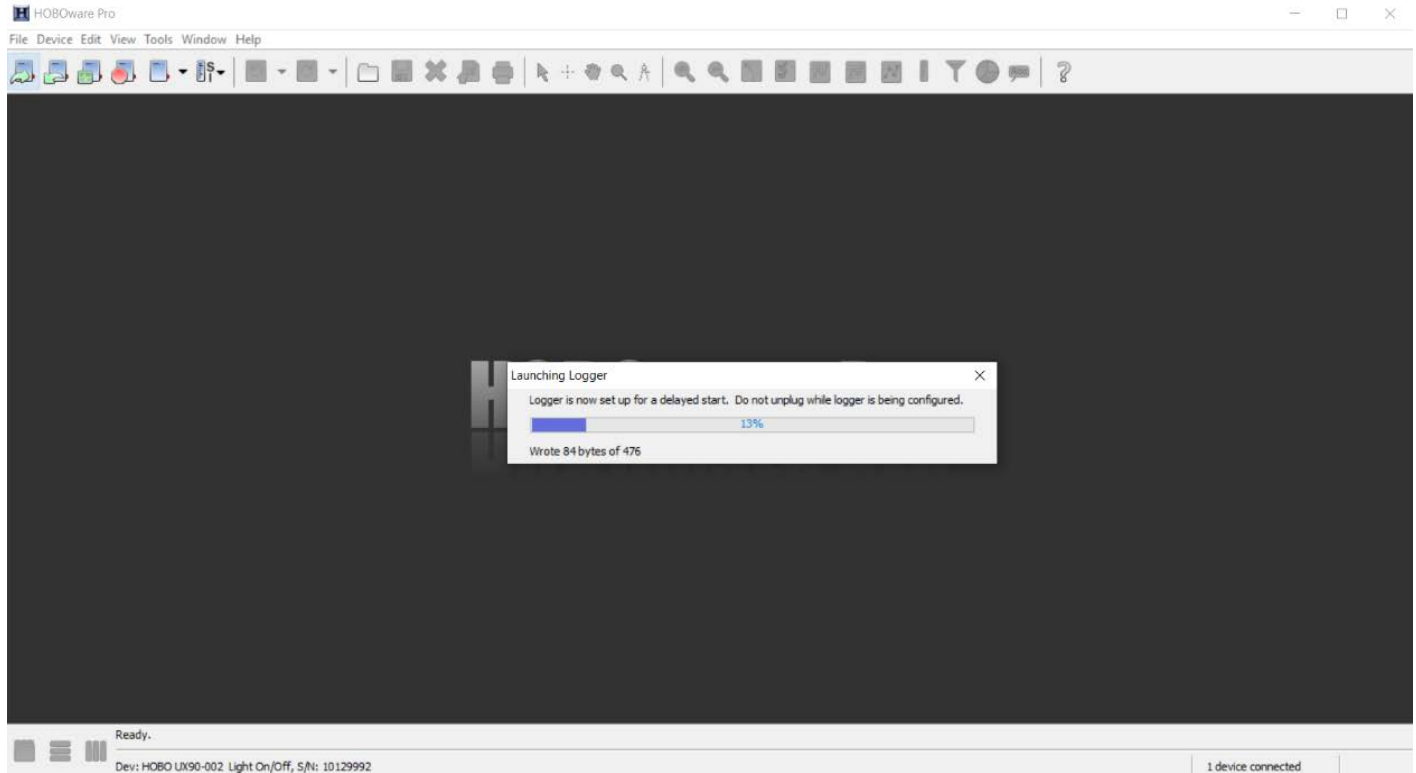

Figure A.5.7: Logger Launching from HOBOWare
6. Click "Delayed Start" to complete the configuration process. Do not unplug the logger from the computer until deployment is complete as shown in Figure A.5.7.